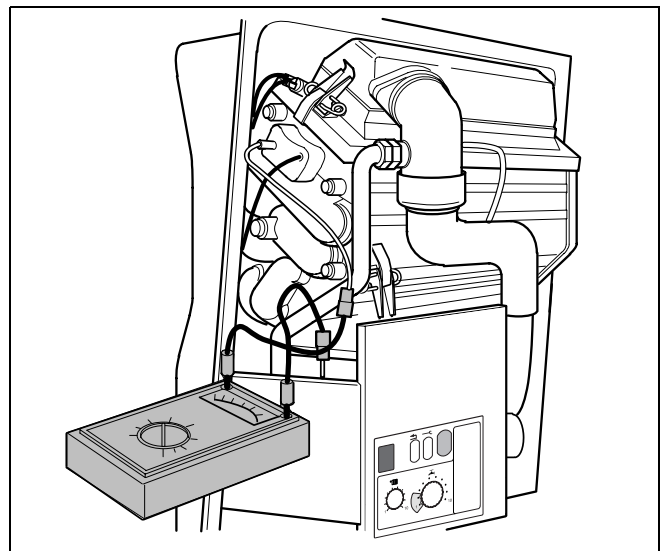

fig. 41 Measuring the ionisation current
- Loosen the plug-and-socket connector of the monitoring cable and connect the measuring device in series (fig. 41). Select on the measuring device the  $\mu\text{A}$  direct current range. The measuring device must have a resolution of at least 1  $\mu\text{A}$ .